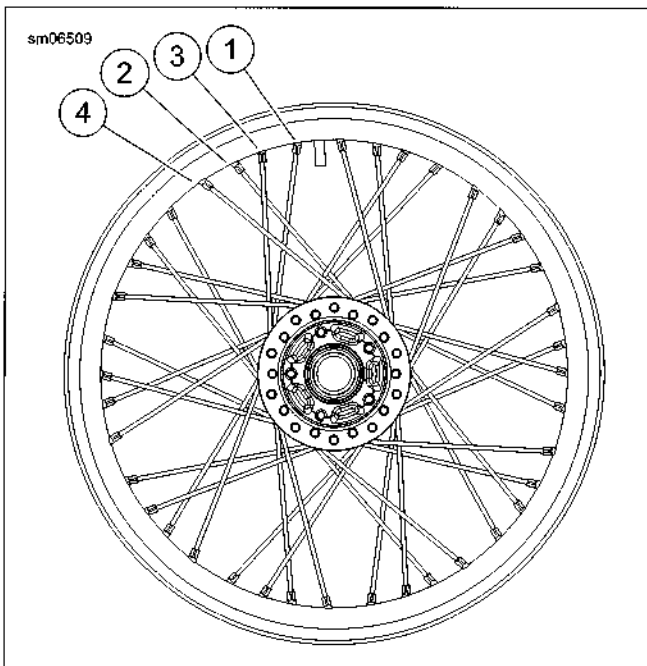

Figure 2-38. Flat Flange Hub, Dual Row
11. See Figure 2-38. Beginning with the 1st hole counterclockwise (1) from valve stem hole, install lower flange outer spokes (short head) in every 4th hole. Loosely install spoke nipples.
15. See Figure 2-38. Beginning with the 2nd hole counterclockwise (3) from valve stem hole, install upper flange inner spokes (long head) in every 4th hole.
16. Rotate outer spokes (short head) counterclockwise. Install in the remaining holes (4) in the rim.